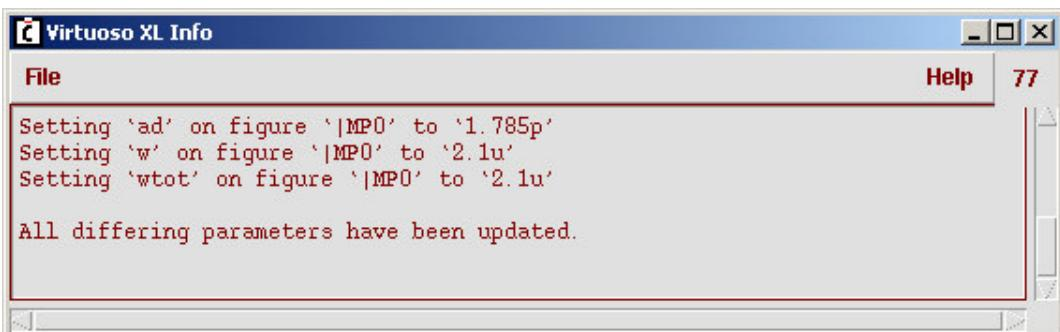

Figure 46. Virtuoso XL Info Reporting Schematic Parameters Updating Layout Parameters
2. Click **Connectivity, Update, Layout Parameters (not Schematic Parameters)**. You should get a **Virtuoso XL Info** similar to the one in Figure 46.